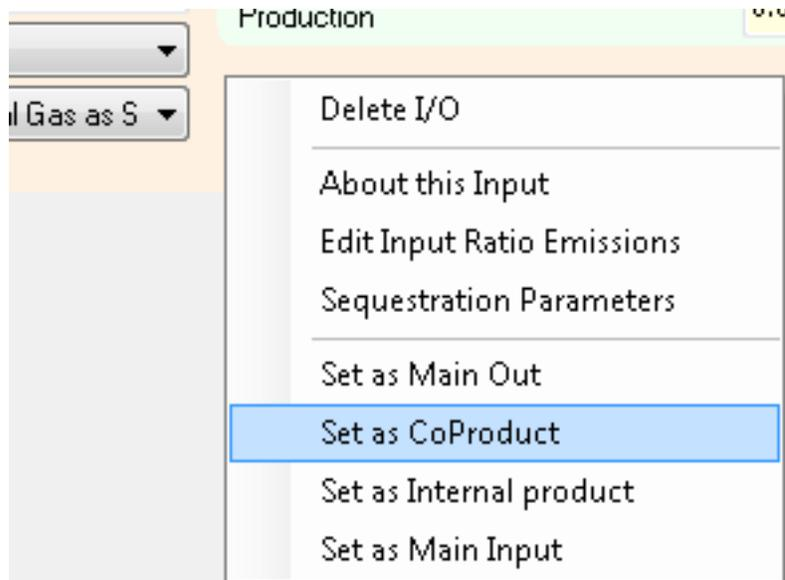

Figure 43: Input Right Click Menu
**Co-Products:** You can add CoProduct directly by dragging and dropping a Resource from the Resource display area into "Drag and Drop other Outputs Below" area. Or by, converting an input to a CoProduct by right clicking on the input then selecting **Set as CoProduct**. See Figure 43.